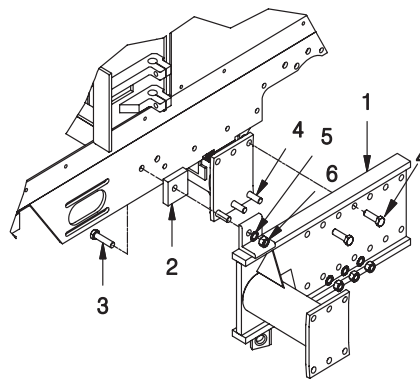
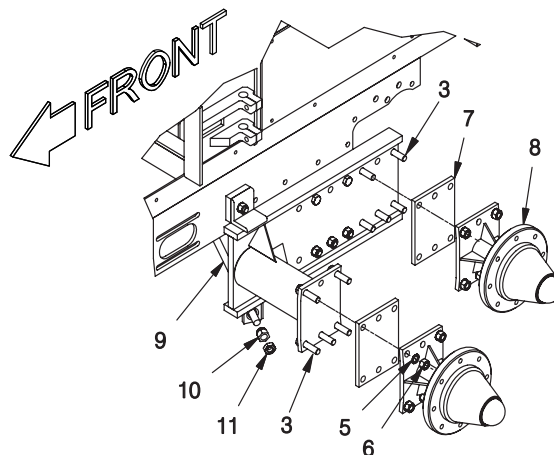

Figure 1 - Mounting Tandem Wheel Plate
Figure 2 - Mounting Spacer Plates, Hubs & Truss Rod
A. Place (3) Y18C-1032 Bolts through the axle as shown in Figure 1. Place (1) R13807958 bolt through frame as shown in Figure 1. Place (1) 901626 Tandem Plate and (1) 901675 Spacer as shown in Figure 1. Place the rest of the bolts, star washers and nuts on so the tandem plate and spacer are secure.
B. Place (2) F000007636 Spacer Plates on the tandem plate as shown in Figure 2. Place (2) F000008003 Hub and Spindle assemblies as shown in Figure 2. Place all bolts, star washers and nuts so the hub and spindle are secure. Torque all nuts and bolts as per torque chart on page 1. Place (1) RD00708601 Truss Rod as shown in Figure 1. Secure truss rod finger tight with (2) NMS0007125 Truss Rod Nut and (2) NFJ0000750 Jam nut.